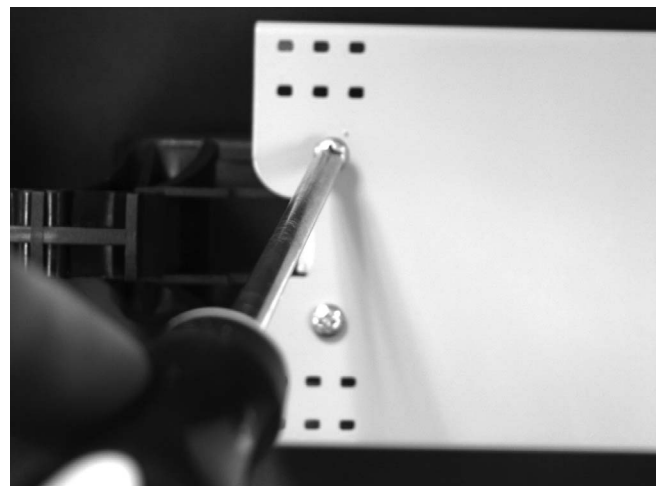

Figure 4: FOSC 450 A4, BS, or B6
1. With the basket open side up align holes of basket with holes on tray bracket. Insert two screws through the holes in the bottom of the basket and through the corresponding holes in tray bracket. Tighten screws completely down. (Figure 4)